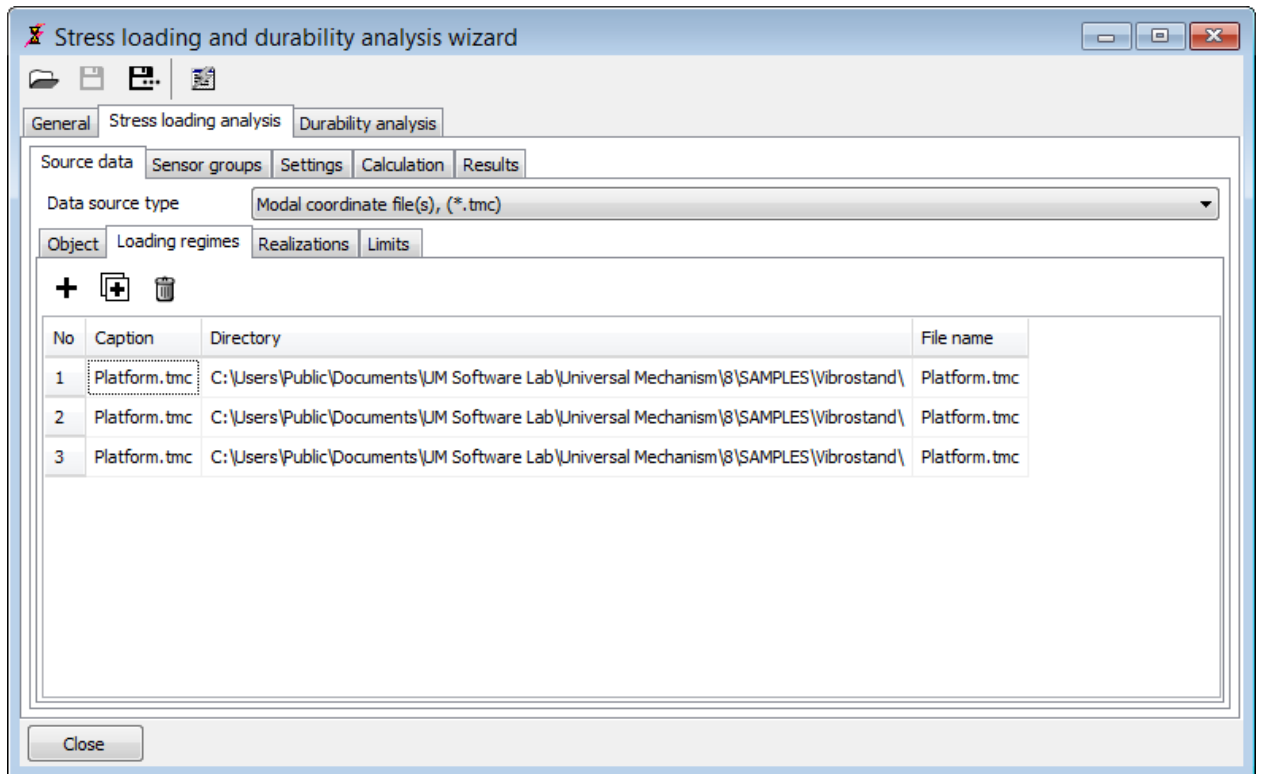

Figure 2.5. Adding of load cases
2. Click the **+** button to add the *Platform.tmc* file three times, see Figure 2.5. The first loading of the file will take more time than further ones, due to flexible subsystem loading time study.